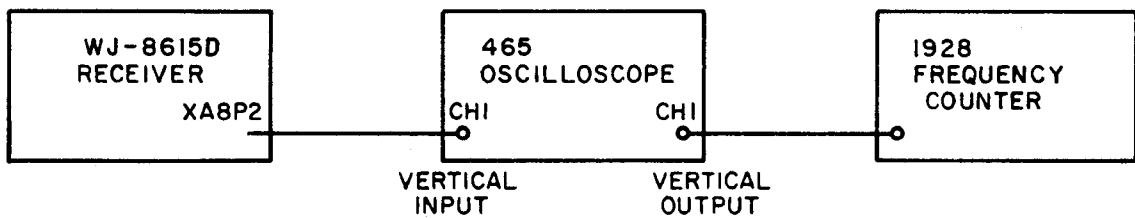

Figure 4-33. Reference Generator Waveform, Equipment Connections
- 8) Connect the test equipment as illustrated in **Figure 4-33**.